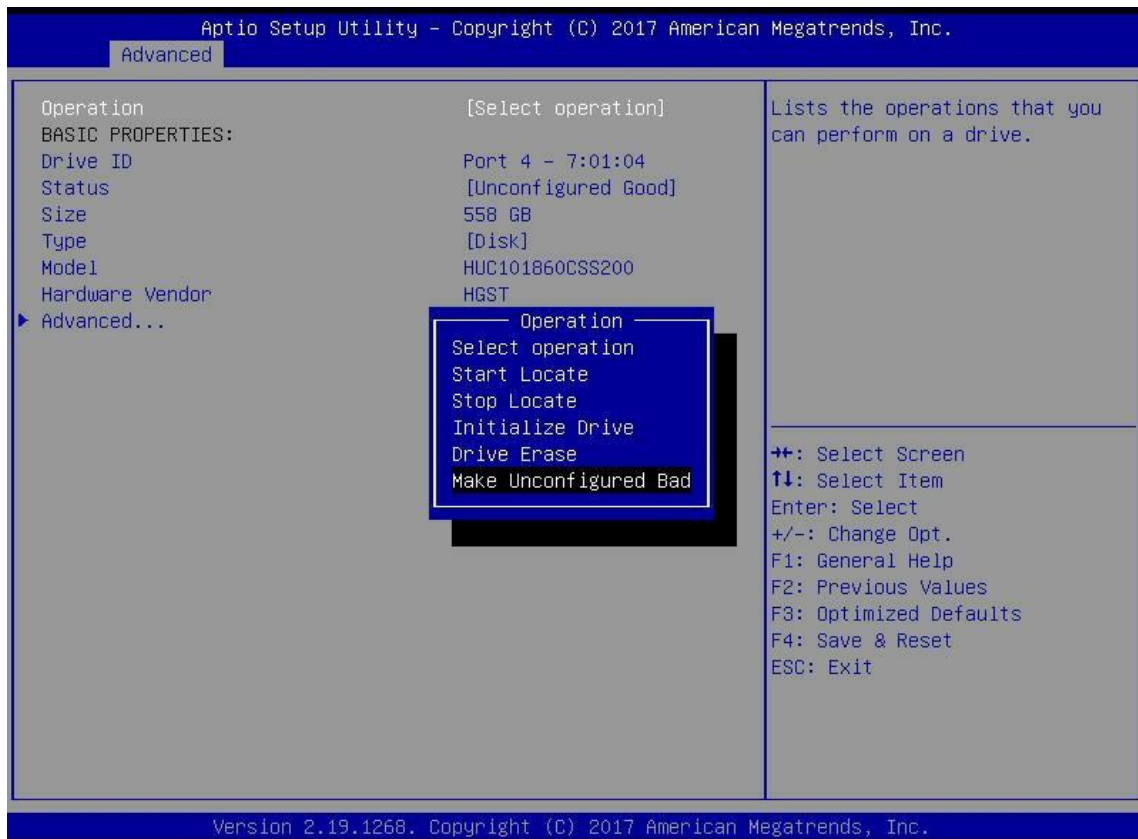

Figure 6-4
- c) Enter the interface shown in Figure 6-4, select operation, press enter, and then select make unconfigured bad in the pop-up dialog box, and press enter.